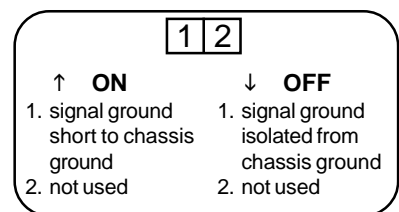

Figure 1: Two Position DIP Switch
**IMPORTANT:** Do not connect signal ground to chassis ground on more than one location in order to prevent ground loops and potentially high currents. See figure 1.